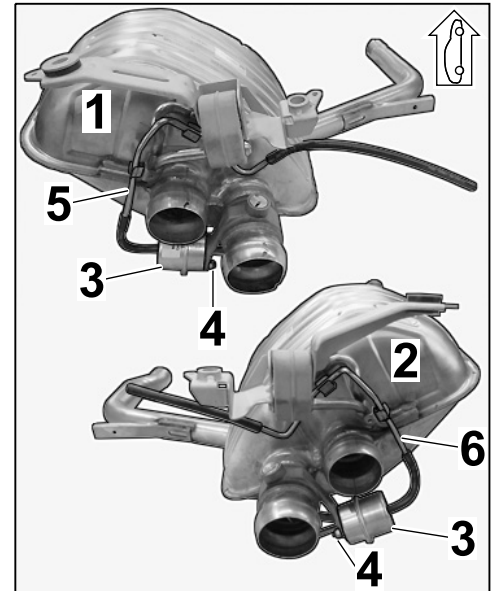

Figure 9
3.2.1 Fit new rear muffler vacuum unit on the left/right rear silencer for the sports exhaust system with new lock nuts (M6, 2 x) and a new lock washer (1 x) (⇒ *Figure 9*).